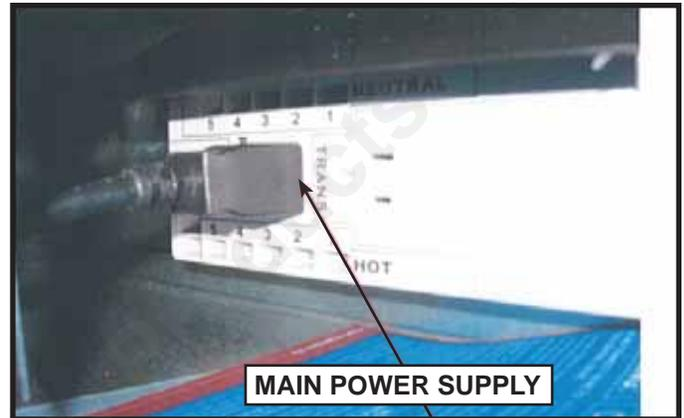

Figure 1.
2. Disconnect main power supply. See Figure 1.